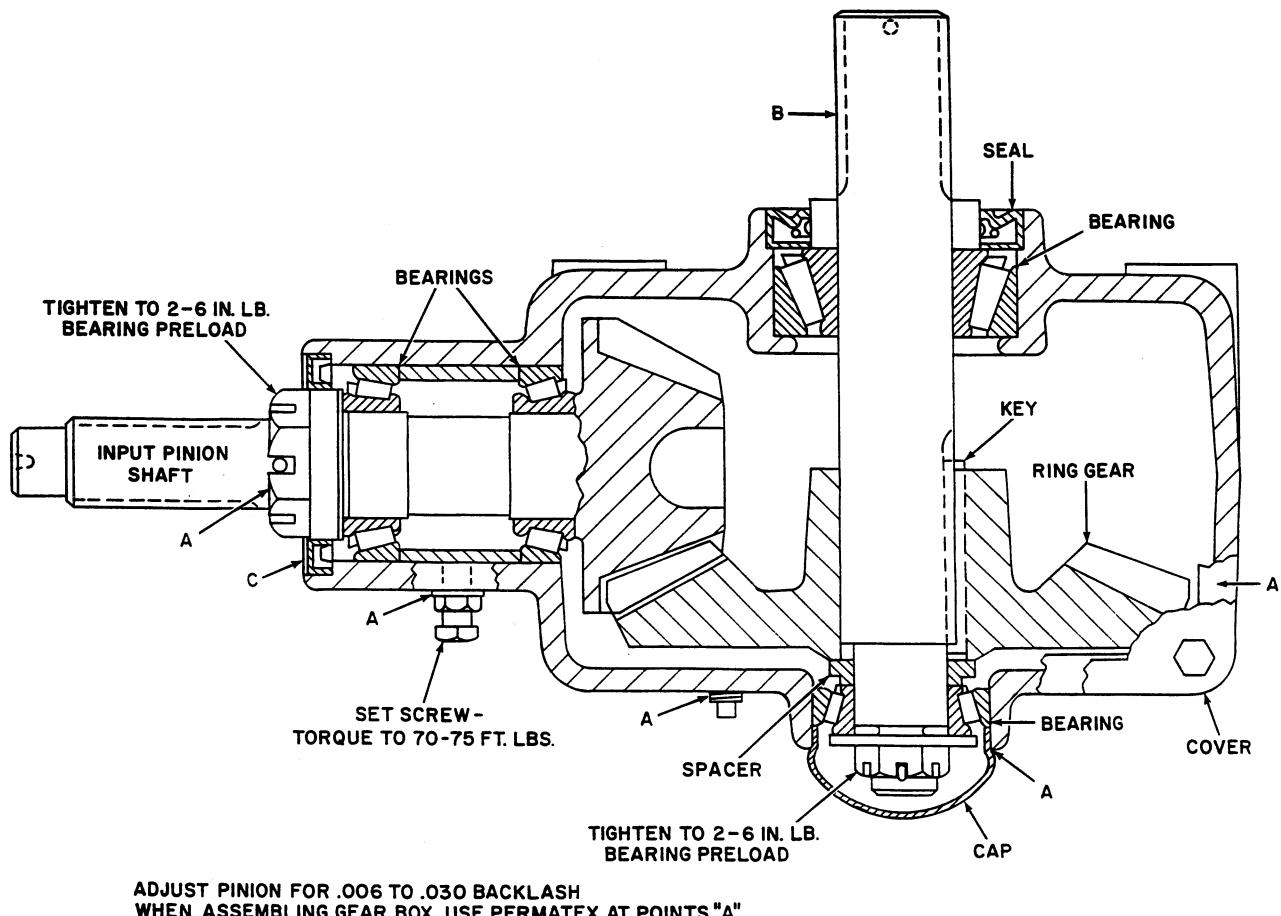

FIGURE 1
2. Remove the cap, cotter pin and nut, washer, bearing, and spacer on the output shaft, B, Figure 1.
Reverse the disassembly procedure except: Install oil seal, C, Figure 1, in the gearbox housing before installing the nut. Install the oil seal on the output shaft last. Use Permatex at points A when assembling the box.